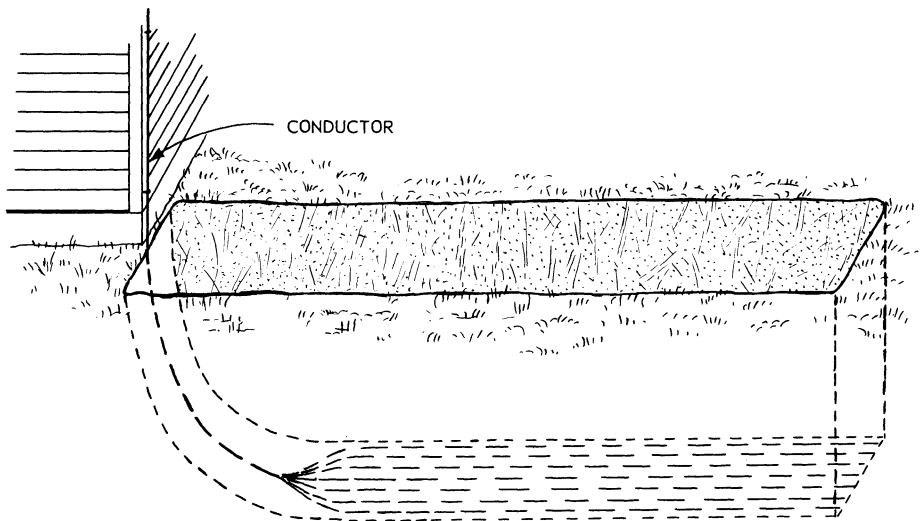

Figure 12.—Ground made by burying a stranded conductor.
- By stranding copper conducting cable and burying it in a trench (fig. 12).